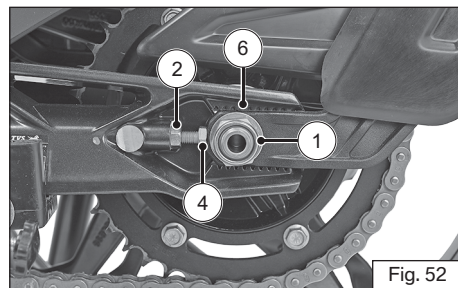

Fig. 52
- ◆ Loosen the rear axle nut (1) using a proper spanner from the tool kit (ref. Fig. 52).
- ◆ Release the lock nuts (2 & 3) (ref. Fig. 52 & 53) using proper spanner from the tool kit (ref. page 103).
- ♦ Turn the adjuster screws (4 & 5) 'in' or 'out' to obtain the specified slackness in the chain (ref. Fig. 52 & 53).
- ♦ Similarly, tighten the rear axle nut and lock nut to the specified torque, and check and ensure the chain slackness (ref. Fig. 52 & 53).